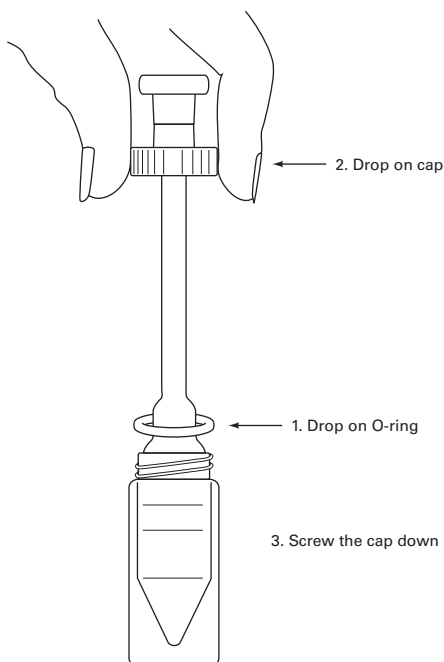

FIGURE 5.1 O-ring cap seal on skinny apparatus.
1. Get a conical vial (appropriate size) that'll fit on the bottom end (male joint) of the wide-bottom air condenser (Fig. 5.1).